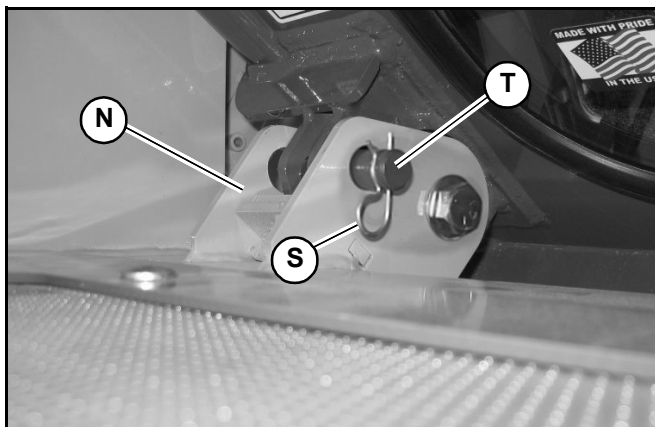

Fig. 113 – ROPS/FOPS Tilt Securing Pins
5. Secure the ROPS/FOPS in the raised position with pins (T, Fig. 113) at brackets (N) on both sides behind the ROPS/FOPS. Secure pins (T) in place in the brackets using spring pins (S) on both sides.
1. Remove spring pins (S, Fig. 113) and pins (T) securing ROPS/FOPS in the tilted position from brackets.